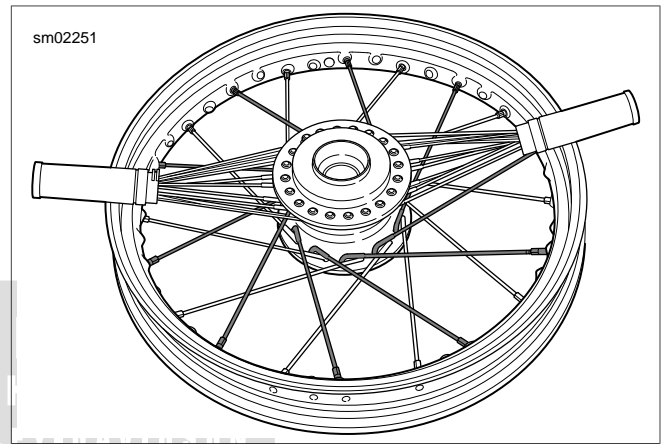

Figure 2-36. Completed Spokes: Bottom Flange Inner
- b. See Figure 2-36. Verify inner spoke reaches spoke nipple and secure spoke loosely by hand. Skip every other hole and repeat lacing. Follow pattern to complete bottom row inner spokes (long head).